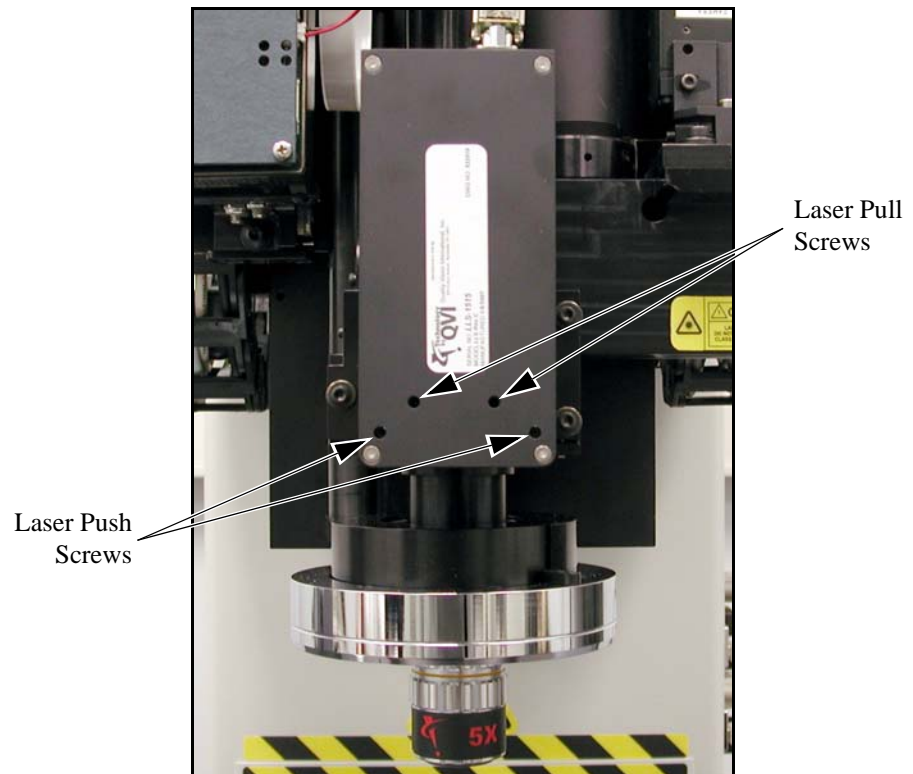

Figure B-7 Location of the Laser Push/Pull Screws
14. Use a 2.5 mm Allen wrench to loosen the laser pull screws (see Figure B-7) one full turn.